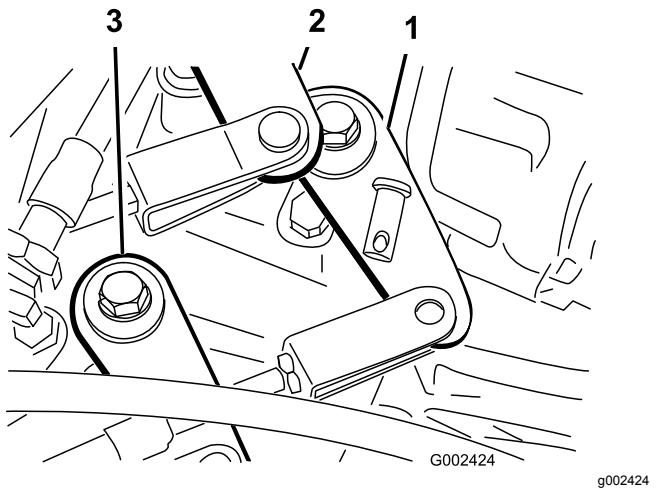

Figure 42
- Remove the clevis pins securing the shift cables to the transaxle-shift arms (Figure 42).
- Remove the clevis pin securing the high-low cable to the transaxle (Figure 42).